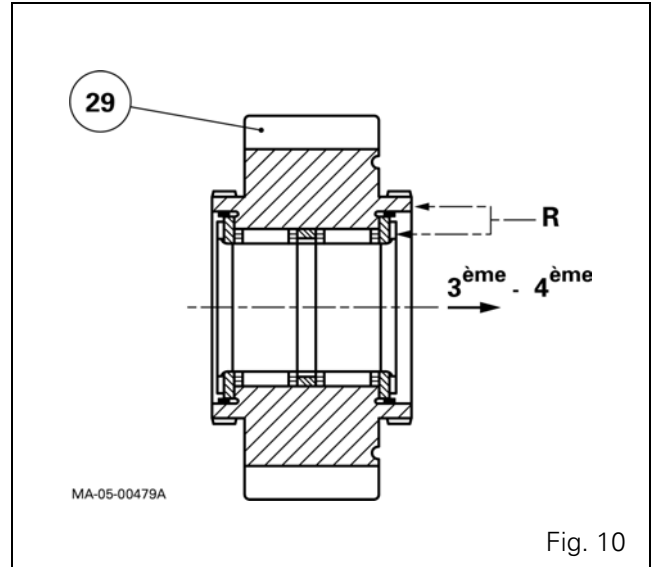
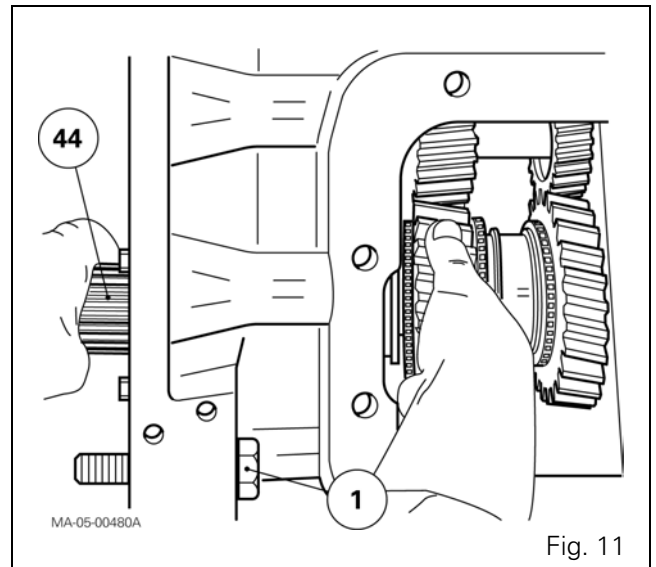

Fig. 10
Fig. 11
3. If necessary, remove screw (1) (Fig. 11).
- 3rd driving pinion (29) fitted with needle roller bearings (28) (30) (recess "R" turned towards the 3rd - 4th synchromesh (Fig. 10);
- the synchromesh (31).**REMINDER:** Needle bearings (28) (30) are force-fitted and separated by spacer (80).
41. Fit output shaft (44) holding the gear train assembly (Fig. 11).
60. Refit the selector cover (see chapter 5), previously checking the presence of the screw (1) (Fig. 11).